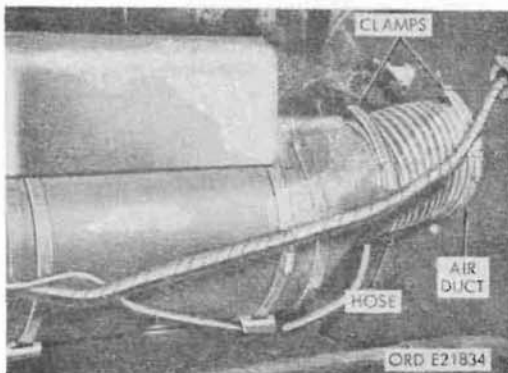

Figure 399. Personnel heater forward air duct replacement - all models
**d. Personnel Heater and Defroster Air Ducts and Clamps Replacement (Figs. 399, 400 and 401).**